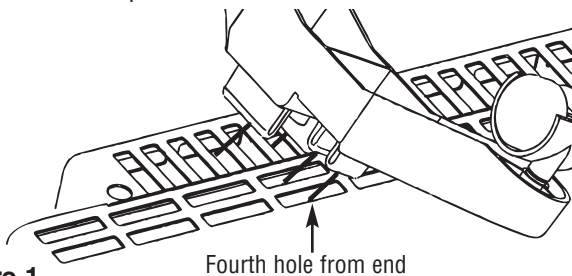

Figure 1
1. If the heater is to be used as a **free standing** unit, support legs must be attached. Remove the two legs from the accessory box. Lay the heater on the floor, insert the two legs into the rectangle holes on the left and right sides near the ends of the heater bottom making sure to fit the 4 clips of each leg into the holes (see Figure 1). Press firmly to securely snap into place (a small flat screwdriver may be required to secure clips). After both sides are fitted, stand the heater upright on the wheels and proceed to OPERATION.